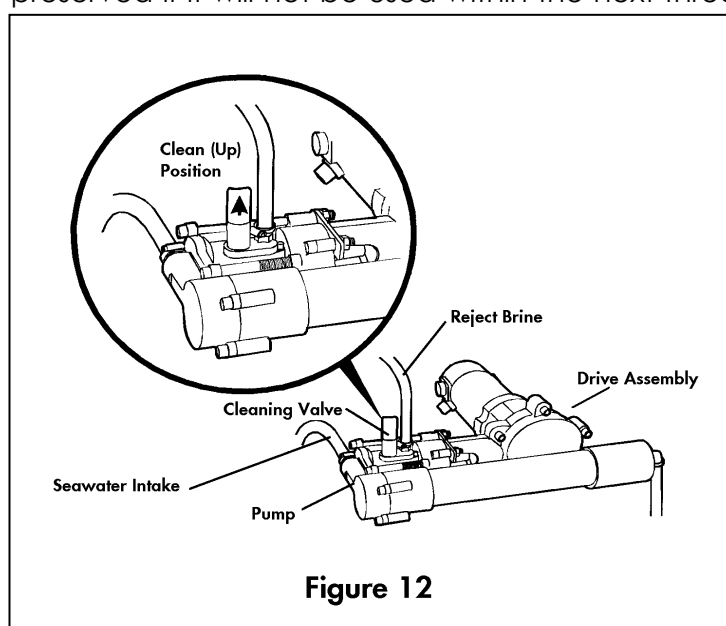

Figure 12
1. Lift the lever on the cleaning valve on the pump to place it in its "clean" or "up" position (see **Figure 12**).
1. Lift the lever on the cleaning valve on the pump to place it in its “clean” or “up” position (see **Figure 12**).